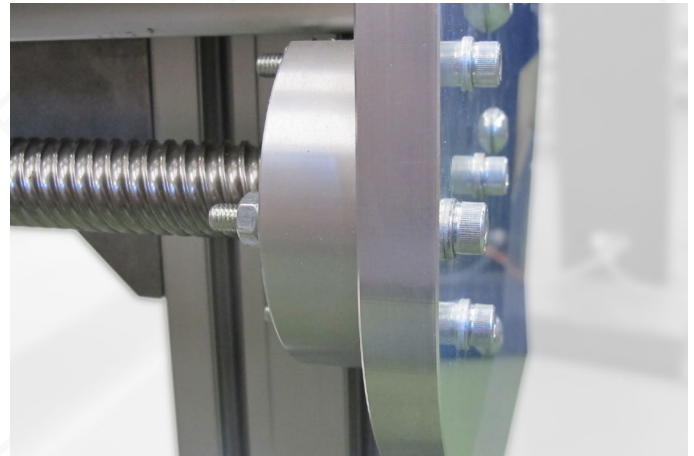

Fig. 1: Floating bearing of an external spindle
- Use four cylinder head screws M6 x 60 (fixed bearing side) or M6 x 45 (loose bearing) with washers and nuts for the screw connection. See Figures 1 to 4.